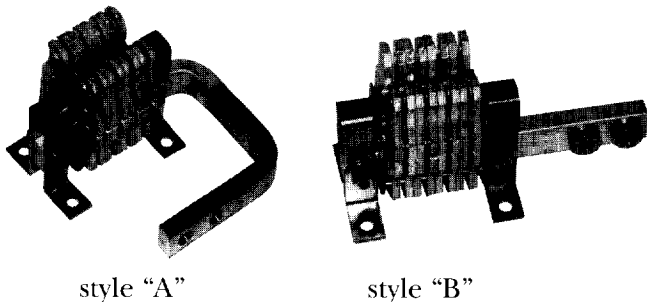

Fig. 16 Ground Finger Assembly
- (a) Mount ground finger assembly (Fig. 16) in front of position switch with four (4)  $.25$ " x  $.50$ " ( $6.35$ mm x  $12.70$ mm) self tapping screws. Ground finger assembly to be mounted on same surface as position switch. Center line of ground finger assembly to be  $3.025 \pm .060$ " ( $76.835 \pm 1.524$ mm) inside of datum "C".